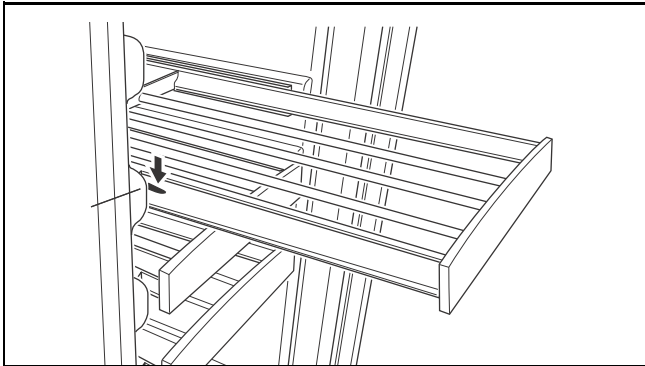

Figure 1. Rack Removal/Installation
3. Press the left rack release lever (**Figure 1**) down, and at the same time, lift the corresponding right rack release lever up, and pull the rack out until it is free of the tracks and the cabinet.